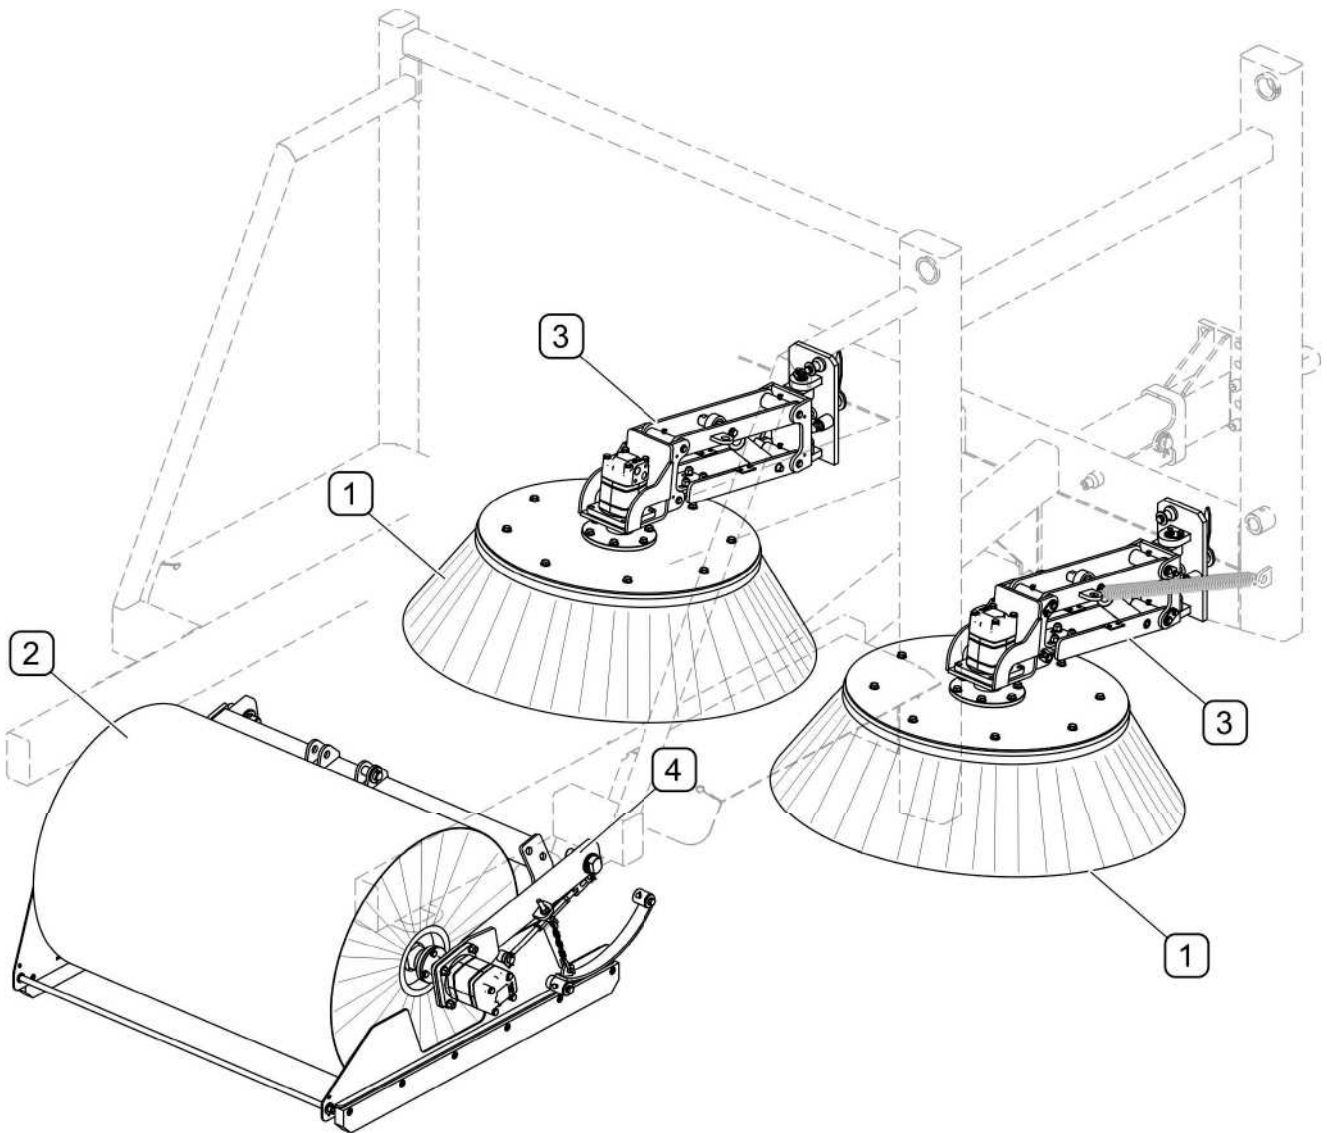
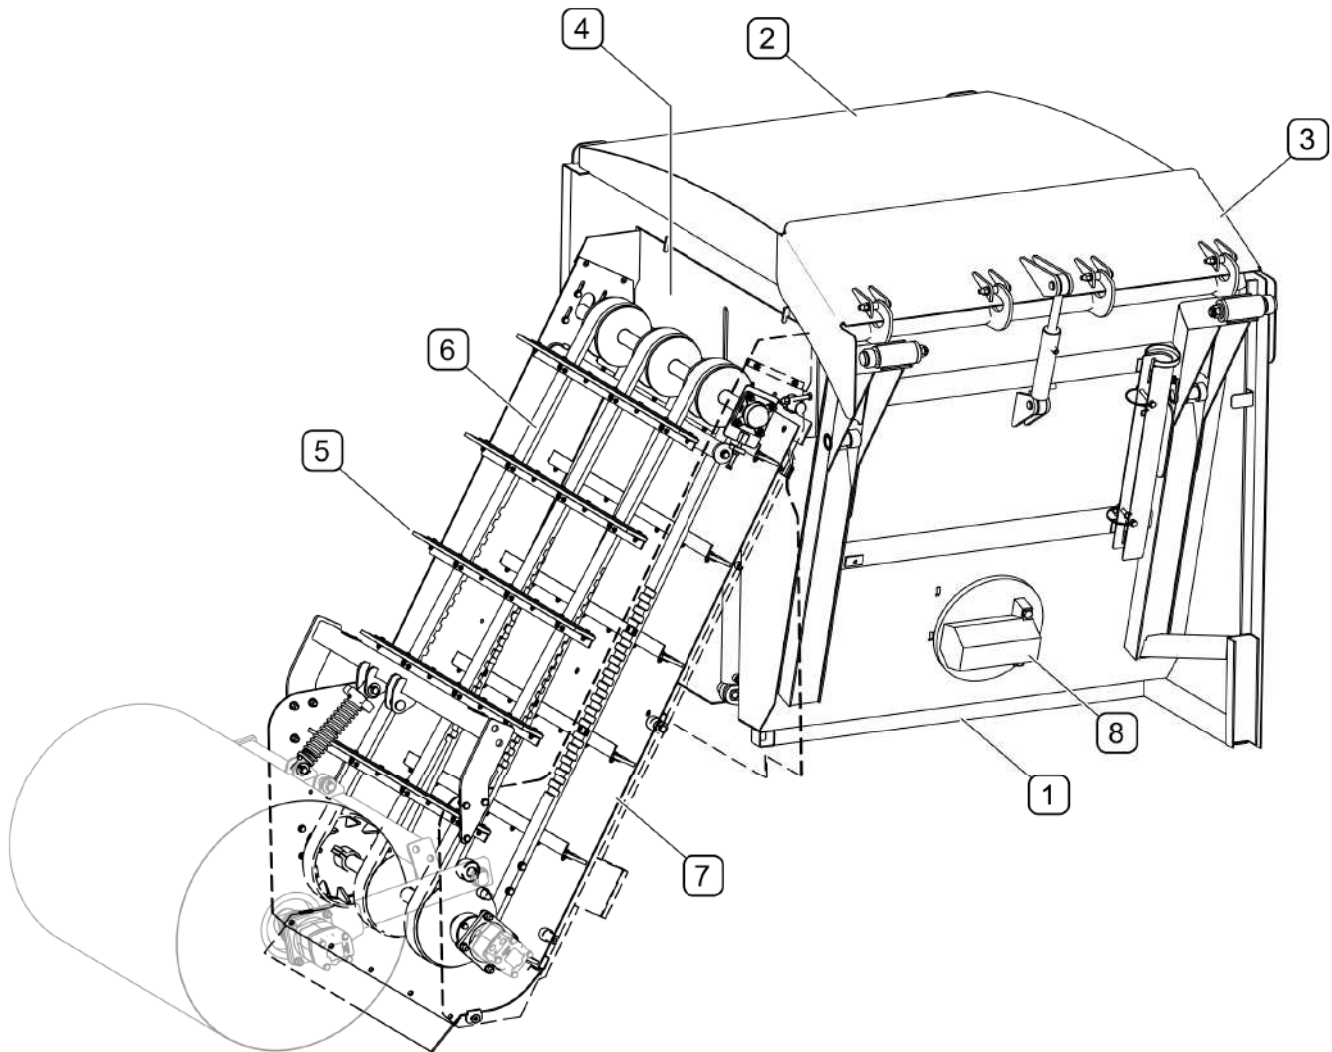

FIG. 3.10 Sweep system
FIG. 3.11 Elevator and waste tank
(1) - disk brush; (2) - roller brush; (3) - disk brush arm; (4) - roller brush bracket
The sweep system (FIG. 3.10) consists of two disk brushes (1). The brushes direct waste to the inside of the machine. Then, roller brush (2) sweeps waste to the elevator (FIG. 3.11).